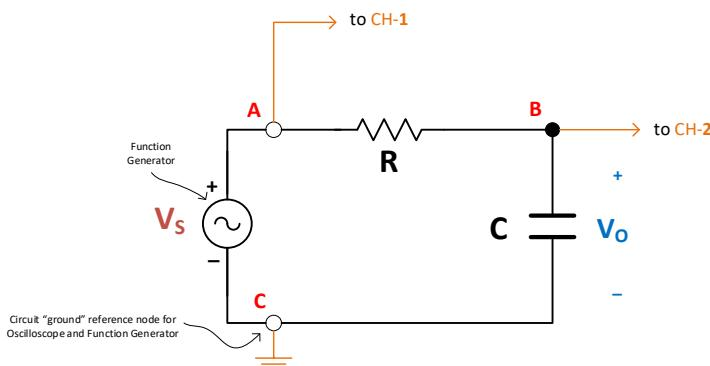

Figure 3.0: Resistance - Capacitance (R-C) Circuit
- (c) The R-C circuit in **Figure 3.0** introduces a **phase-shift** (Θ) between the output signal, V_o and the input signal source, V_s , the amount of phase-shift depends on the frequency, f of the input signal. This specific phase relationship can be expressed as: $\Theta^\circ = \tan^{-1}(2\pi f \cdot C \cdot R)$
Table 2.1: Theoretical phase-shift values of Figure 3.0 circuit
(f) Use **MultiSIM** to construct and simulate the circuit in **Figure 3.0**, with resistors $R = 2k\Omega$ and $C = 0.1\mu F$. Ensure that *node C* of the circuit is used as the *common ground* for all equipment.
Table 3.2: MultiSIM measured phase-shift values of Figure 3.0 circuit
(c) AC Phase Measurement on the Simple R-C circuit (Figure 3.0)
1. Construct the circuit of **Figure 3.0** on your breadboard using the resistor value of $R = 2k\Omega$ and the capacitor value of $C = 0.1\mu F$ from your Kit components. Ensure that *node C* of the circuit is used as the *common ground* for all equipment connections.
Table 4.2: In-Lab measurement results of Figure 3.0 circuit